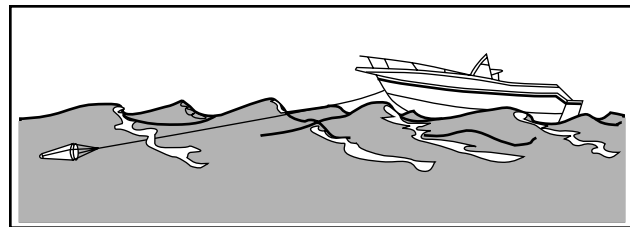

FIGURE 7.3 SEA ANCHOR
- If you lose power, keep the boat headed into the waves by rigging a sea anchor off the bow (**Figure 7.3**). If there is no sea anchor on board, use a canvas bucket or any object that will offer resistance.